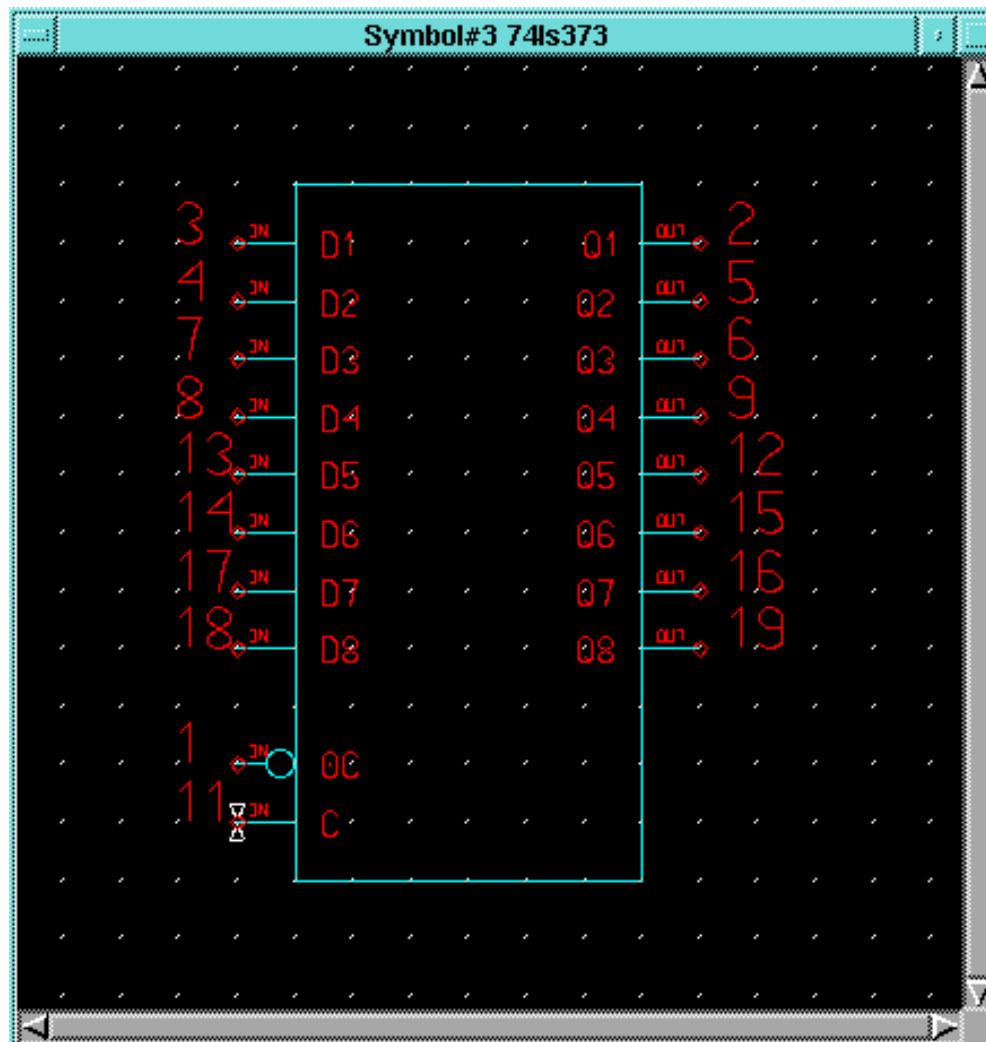

Figure 1-54. Completed 74ls373 Symbol
11. Renumber the pins using Figure 1-54 as a guide. Click the Select mouse button on each successive number. The message window tells you what the next number is. There is no pin **10** on the symbol, so change the number for pin **C** from **1** to **10** to **11**. When you have renumbered all the pins, click the right mouse button to stop.